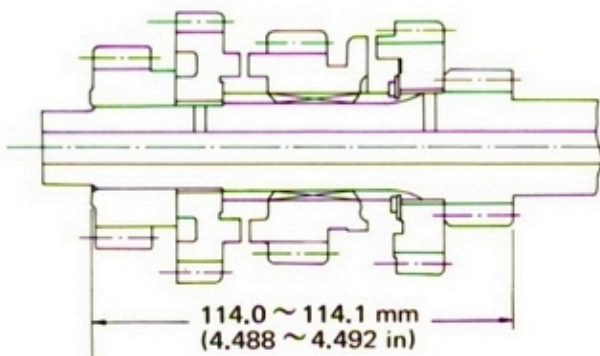

Fig. 7-3-14
- 2) The press-fit should be made so as to have 114.0 – 114.1 mm (4.488 – 4.492 in) from the low gear end to the end of 2nd gear as shown in Fig. 7-3-14.